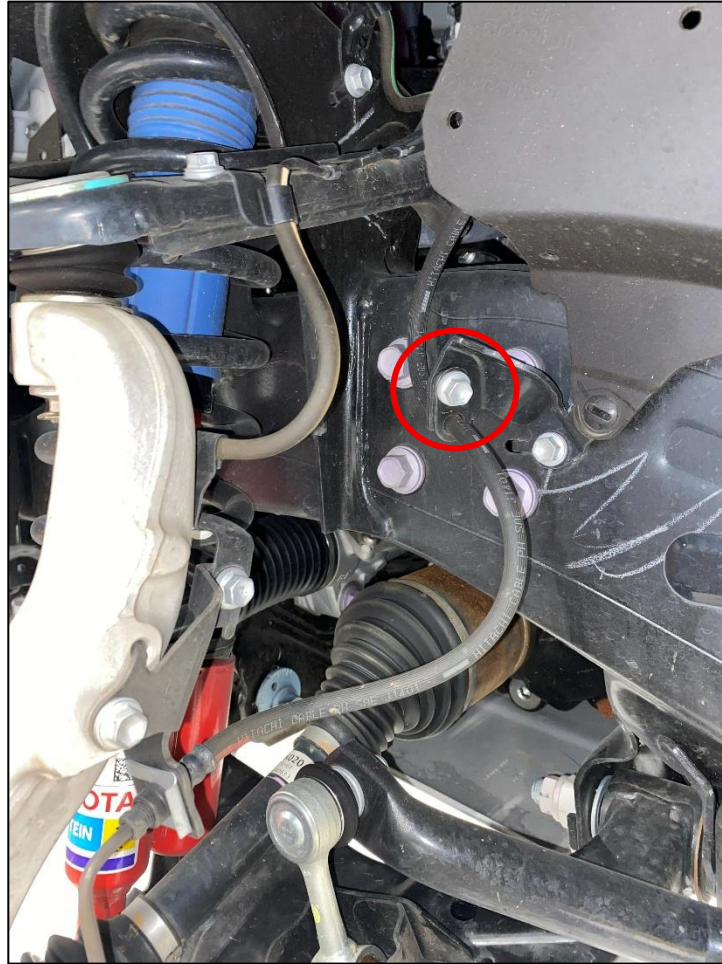

Figure 4
4. Remove the (1) one OE Bolt securing the middle of the OE Soft Brake Line to the mounting bracket. Retain this bolt. *Figure 4.*